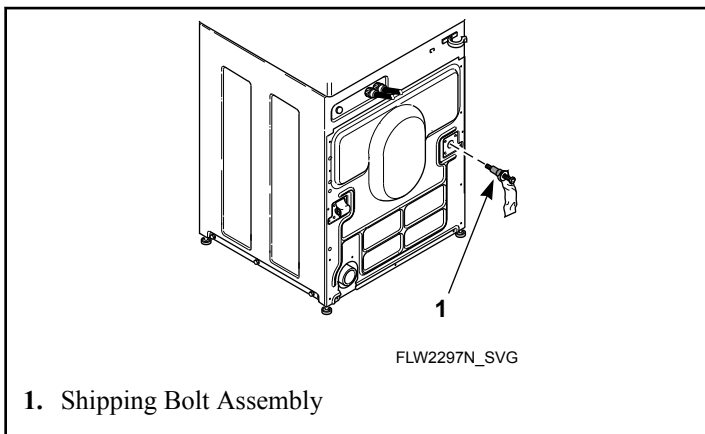

Figure 25
7. Insert shipping bolt assemblies into each shipping bolt hole. Refer to *Figure 25*.